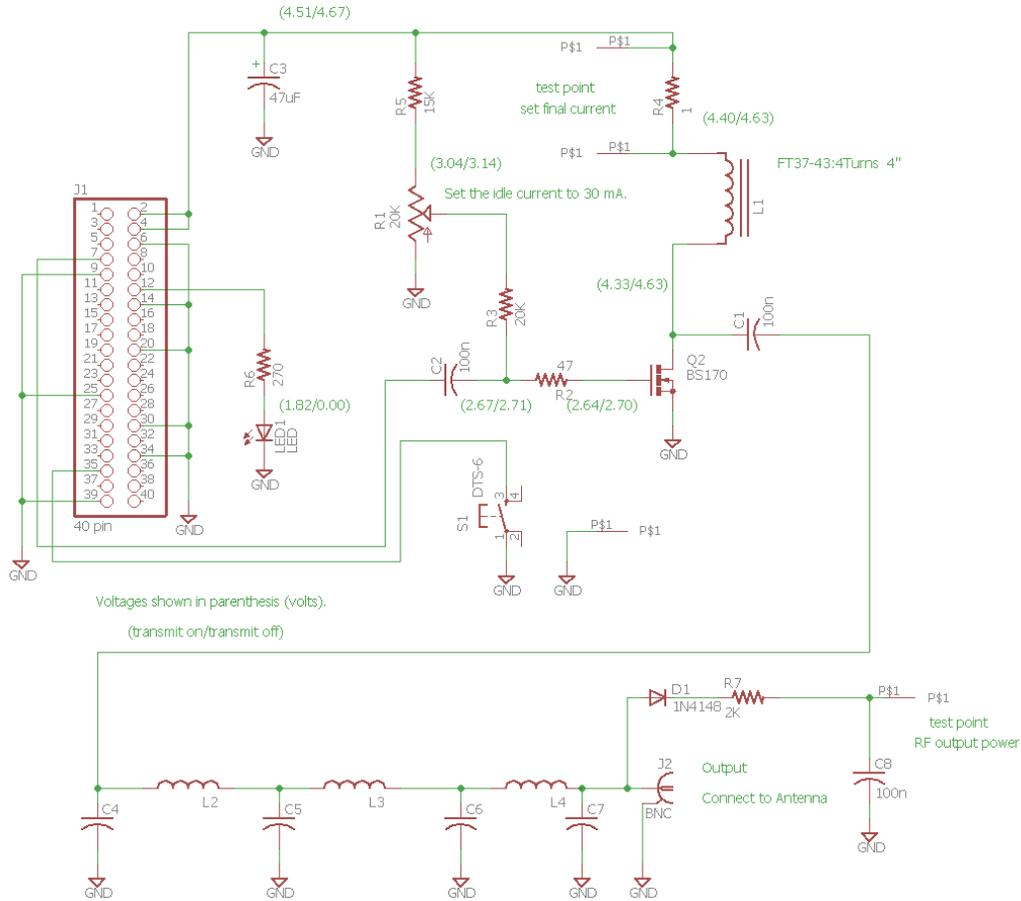

Figure 10: VW Schematic
The VW schematic is shown in Figure 10: VW Schematic.
10. Measure idle current with a VOM. This is the current across R4 (1 ohm resistor). Connect positive probe to the *Vcc* test point and the negative probe to the *Current* test point (see Figure 10) This should be <20 mV when not transmitting and ~70-80 mV when transmitting, corresponding to <20 mA and ~60 mA.
15. Using the scope, measure the voltage coming out of the Pi. This is between pin 7 and GND (see Figure 2). Of course, the probe goes to pin 7. When transmitting, you should see a square wave ~3.5 Vp-p. 4. If you've got a signal coming out of the Pi (pin 7 measurement), then then next thing to check is the output before the low pass filter (left side of L3, see Figure 10). This should be a square wave ~3 Vp-p. If all else fails, send me an email (Bruce Raymond, nd8i@tapr.org). I'm happy to help.